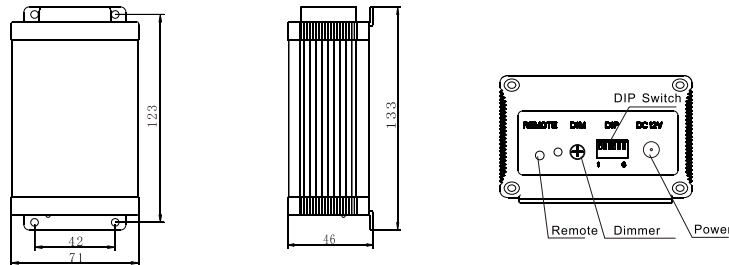

Fig. 1
1. Installing size and rear panel of LLE-004 (see fig. 1):